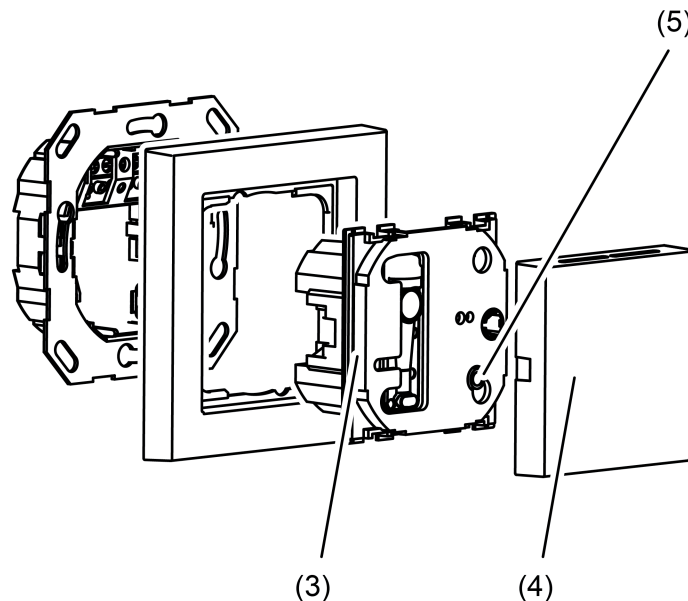

Figure 6: Location of the programming button and LED
The programming button is located behind the blank cover (4) on the electronics cover (3). The programming LED (5) is located behind the blank cover (4) on the electronics cover (3) (Figure 6).
- Remove the blank cover (4) if it is already mounted.
- Activating Programming mode: push the programming button (5).